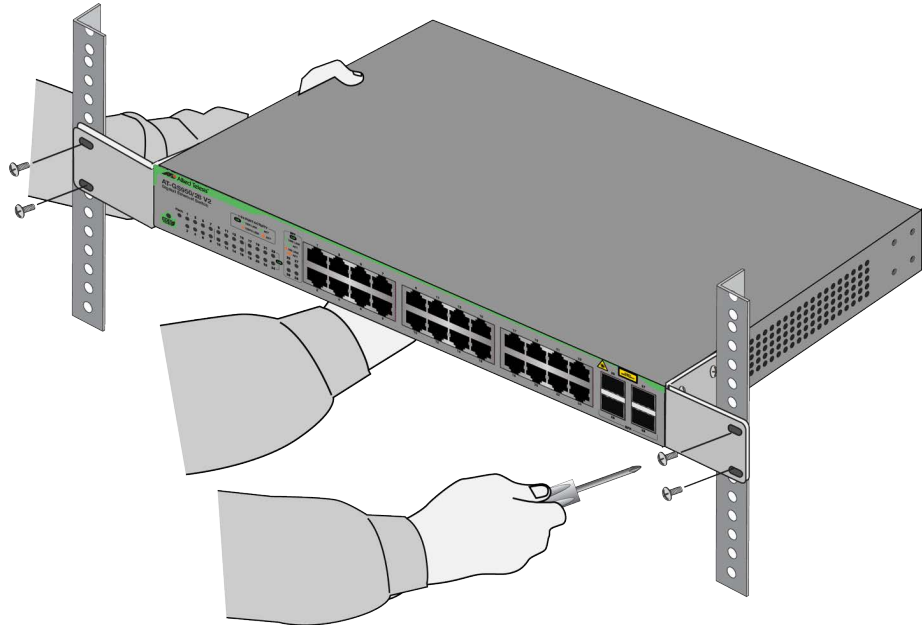

Figure 35. Installing the Switch in an Equipment Rack
4. Have another person hold the switch in the equipment rack while you secure it using the four equipment rack screws provided with the switch. Refer to Figure 35.